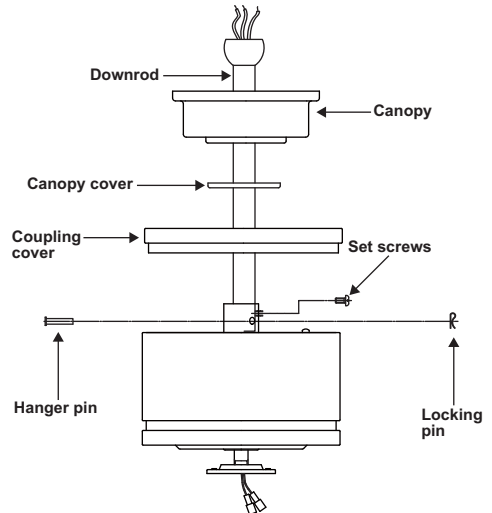

Figure 7
Step 6. Route wires exiting from the top of the fan motor through the coupling cover, canopy cover and canopy, then through the ball/downrod. (Fig. 7)
Step 7. Align the holes at the bottom of the downrod with the holes in the collar on top of the motor housing (Fig. 7). Carefully insert the hanger pin through the holes in the collar and downrod. Insert the locking pin through the hole near the end of the hanger pin until it snaps into its locked position, as noted in the circle inset of Fig. 7.
Step 8. Tighten two set screws on top of the fan motor firmly. (Fig. 7)